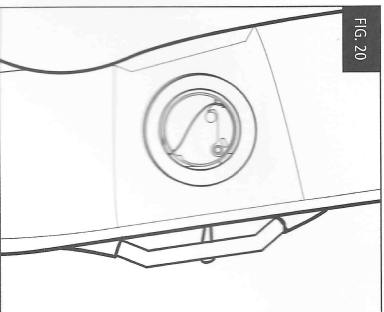

FIG. 20
9. Pass the inflator pull handle through the button hole, and secure the ends into the stretch tabs (Fig. 20), taking care not to pull the lanyard and inadvertently inflate your PFD.